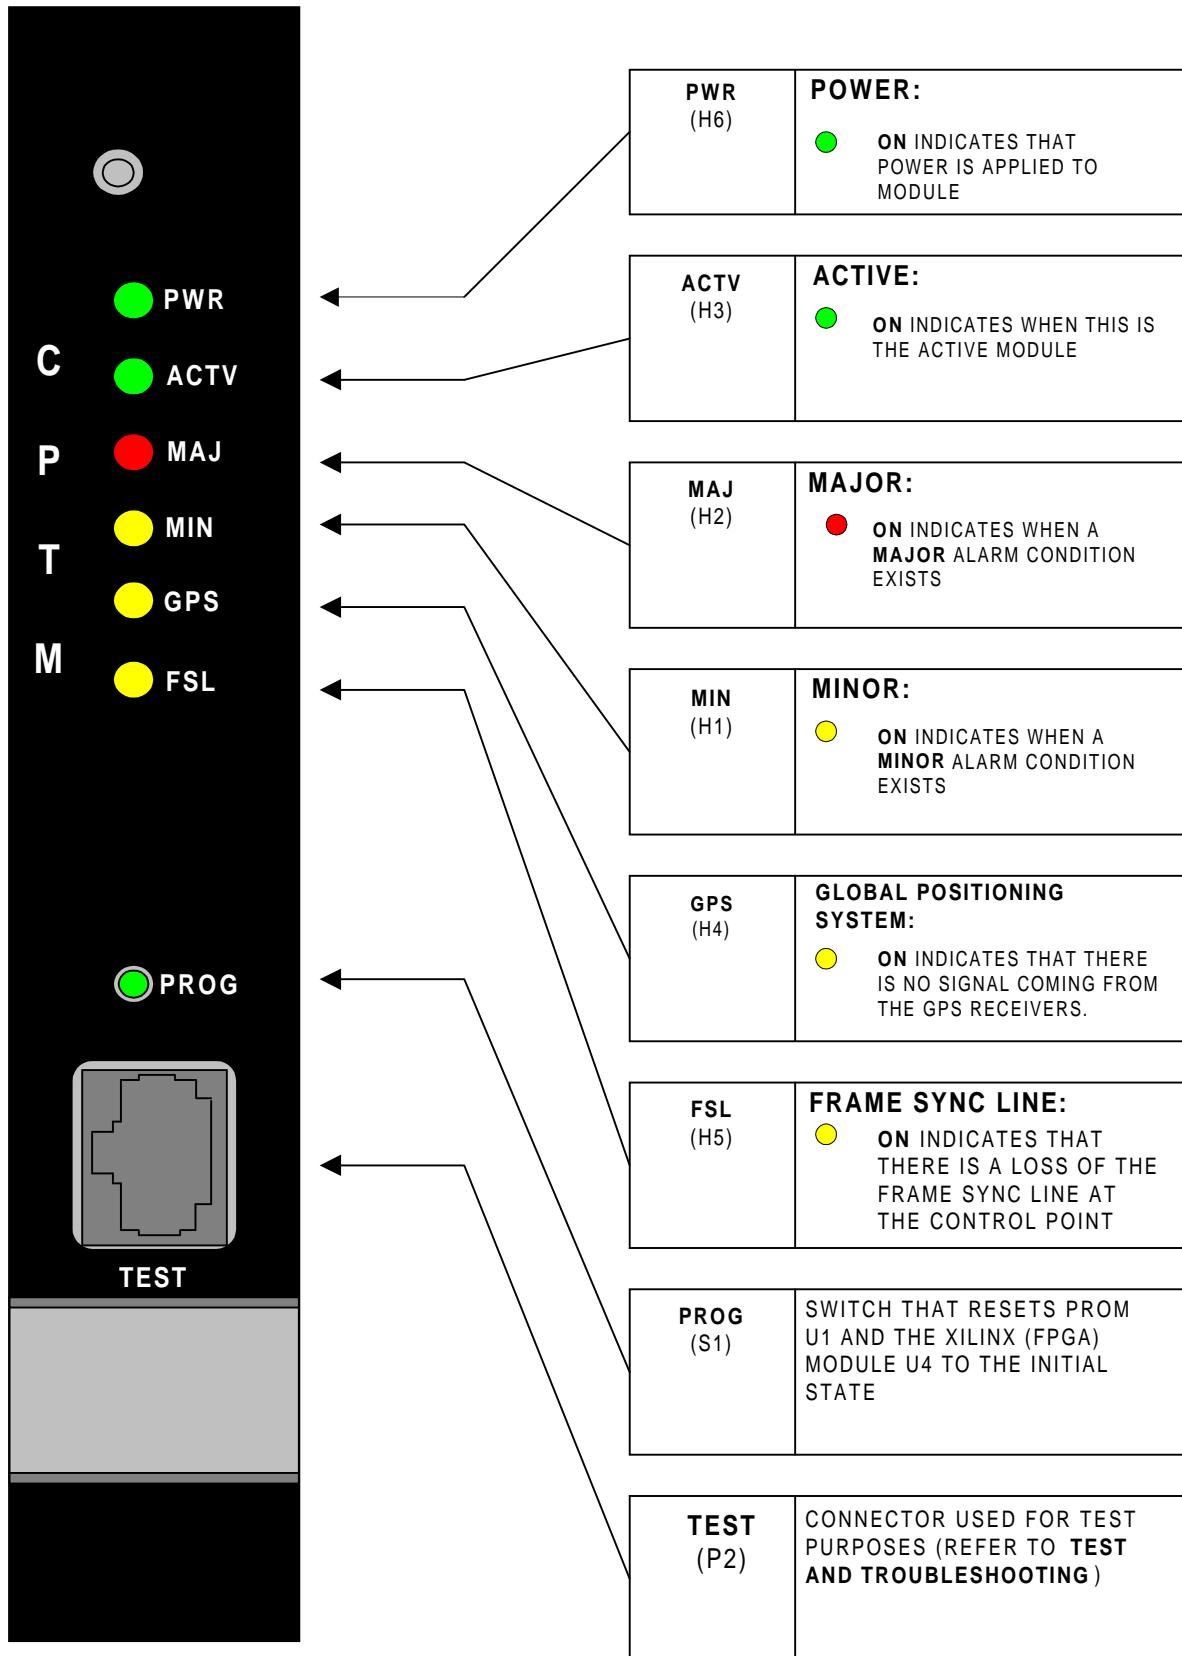
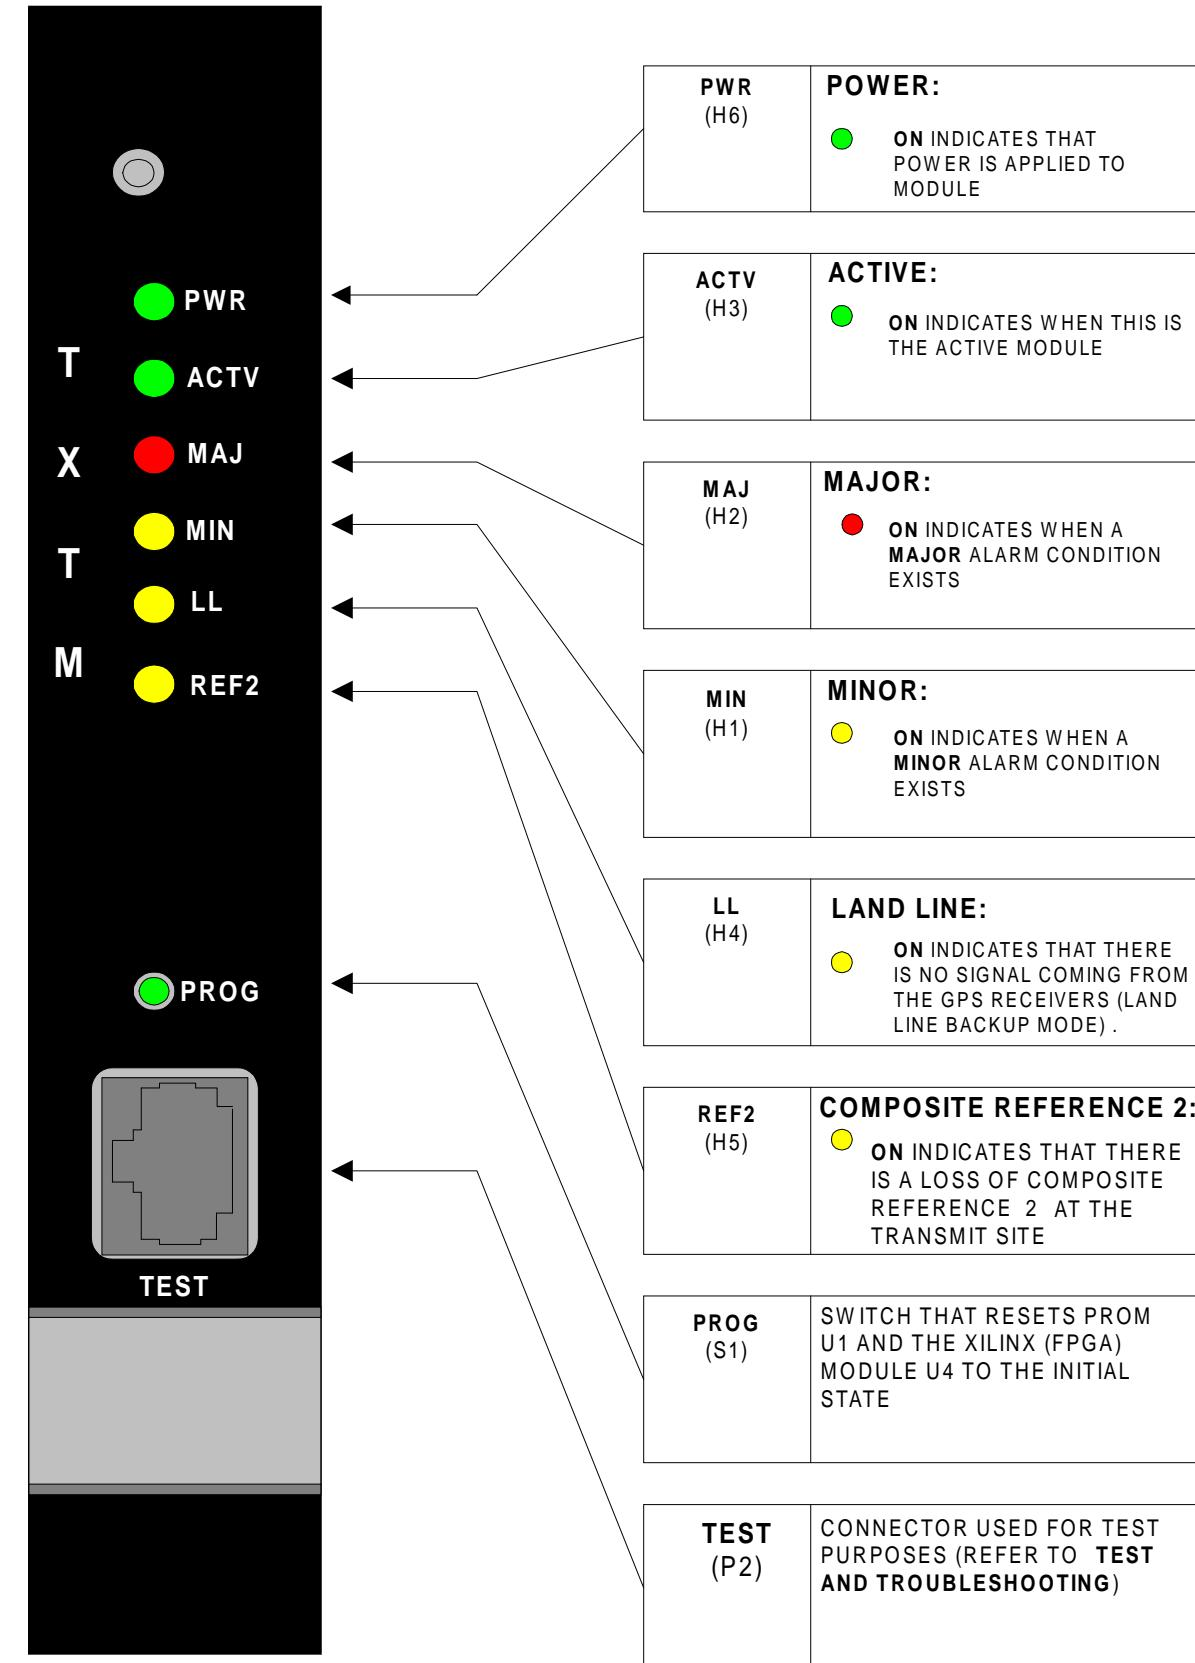

Figure 1 - Control Point Timing Module Front Panel
Figure 2 - Transmit Site Timing Module
Refer to Figures 1 and 2. The following is a description of the LED indicators found on the front panel of the modules.
At the Control Point, the Timing Module is an ROA 117 2260/1 and the module at the Transmit Site is an ROA 117 2260/2. One difference is that there is a different PROM in socket XU1 with different programming used between the two locations. Also, front panel LED's and labels differ: **CPTM** for Control Point Timing Module (*Figure 1*) and **TXTM** for Transmit(X) Timing Module (*Figure 2*).